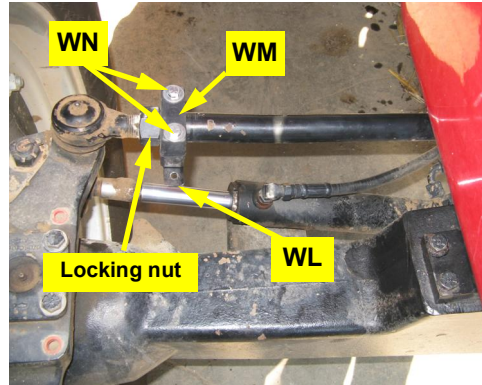

Figure 2b-i: Installed clamp (7100 series)
- Using hardware **WN**, attach plastic clamp **WM** ($1\frac{1}{2}$ " or $1\frac{1}{4}$ " according to tie rod diameter) and link rod bracket **WL** to the tie rod next to the locking nut. Install bracket **WL** at the bottom of clamp **WM** with its rod hole toward the steering cylinder (Figure 2b-i).